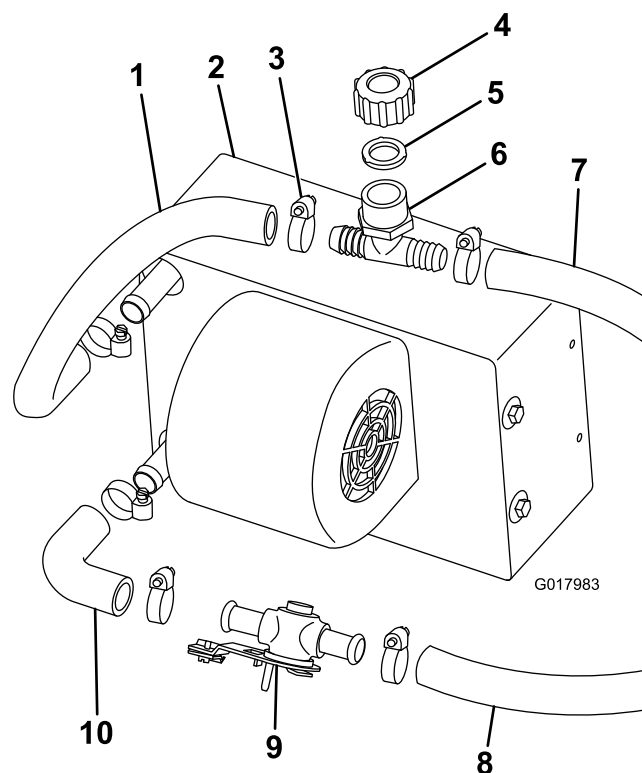

Figure 2
1. Loosely attach the elbow hose to the bottom fitting of the heater assembly with a hose clamp (Figure 2).
2. Connect the heater valve to the elbow hose with a hose clamp (Figure 2).
3. Cut a 12 inch piece of 5/8 inch hose and attach it to the top fitting of the heater assembly with a hose clamp (Figure 2).
4. Connect the white fill tee, gasket, and cap to the upper heater hose with a hose clamp (Figure 2).